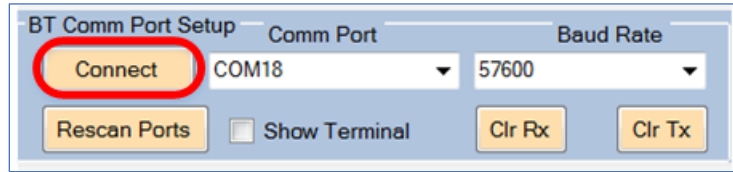
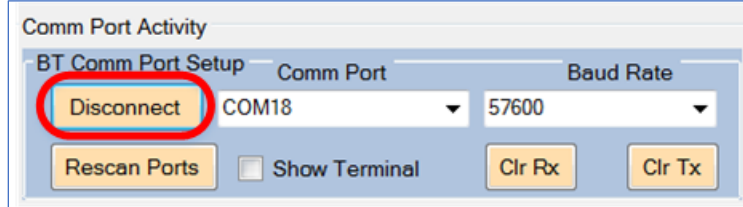

Figure 4: BT Comm Port Setup Window, Connect Button
Figure 5: BT Comm Port Setup Window, Disconnect Button
5. Click on the Connect button (Figure 4). Upon connection, the Connect button changes to a Disconnect button (Figure 5).